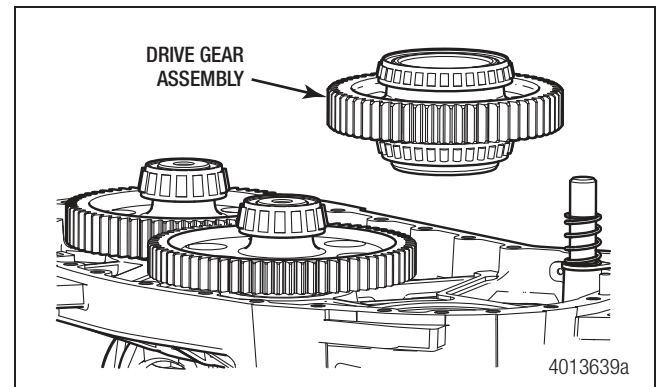

Figure 4.17
20. Remove the input (drive) gear assembly from the case. Figure 4.17.